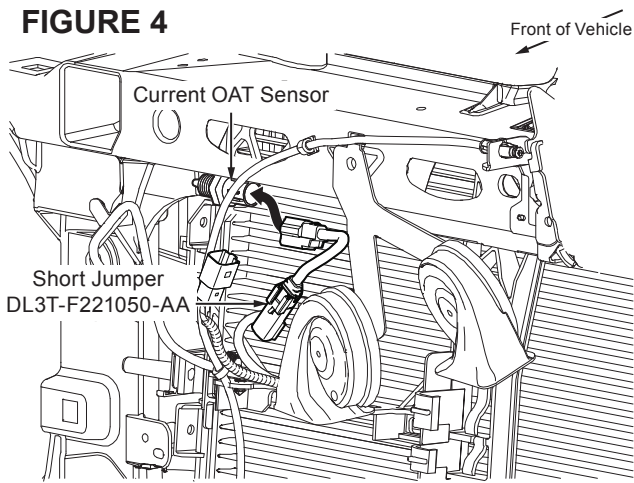

FIGURE 5
5. Plug connector cap (BU5T-14A464-PAA) onto the short jumper (DL3T-F221050-AA) to seal short jumper inline connection. **See Figure 5.** *NOTE: This connection will hang loose in front of the radiator. IMPORTANT: Only use this way when plow is connected. When plow is removed, the short jumper will need to plug into the new spliced pigtail on the 12A581 wire harness and the cap will install on the long jumper (DL3T-F221095-AA).*